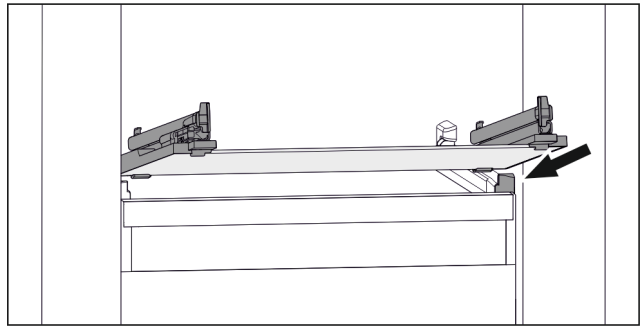

Fig. 141 Example illustration of glass shelf
- ▶ Position glass shelf at an angle behind the stoppers. (see Fig. 141)